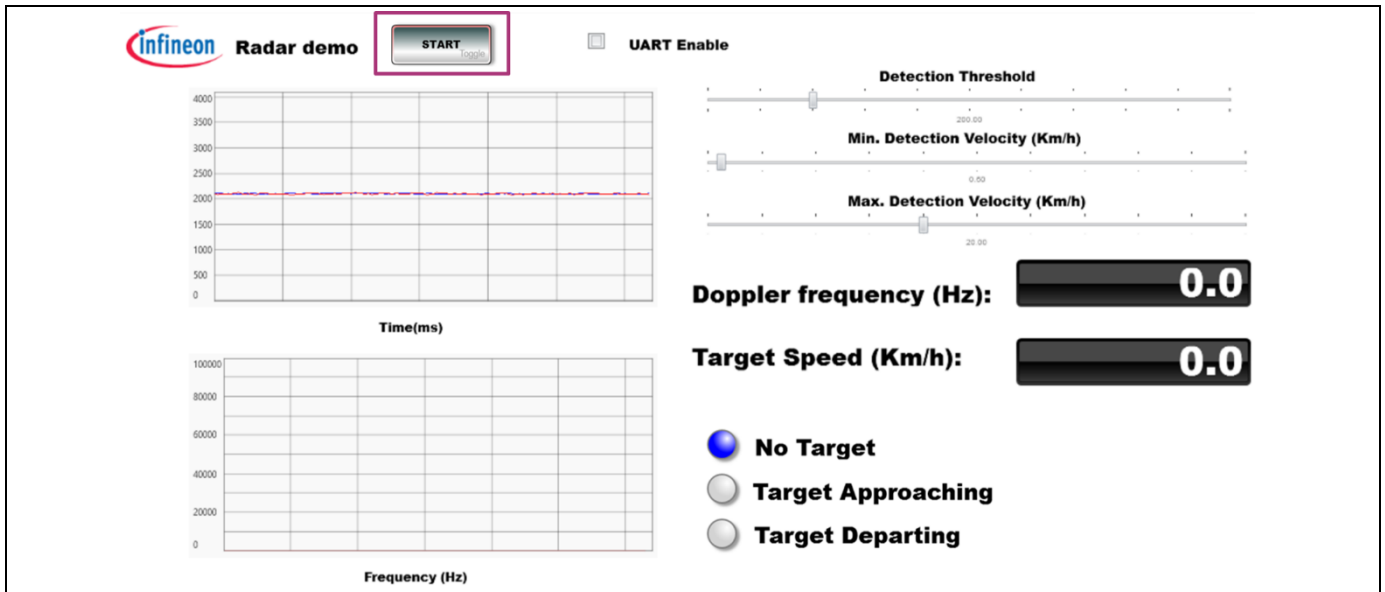

Figure 20 Start data collection
- The GUI interface in Figure 20 should appear. The size of the GUI is not adaptive and may require some adjustments to fit the screen.